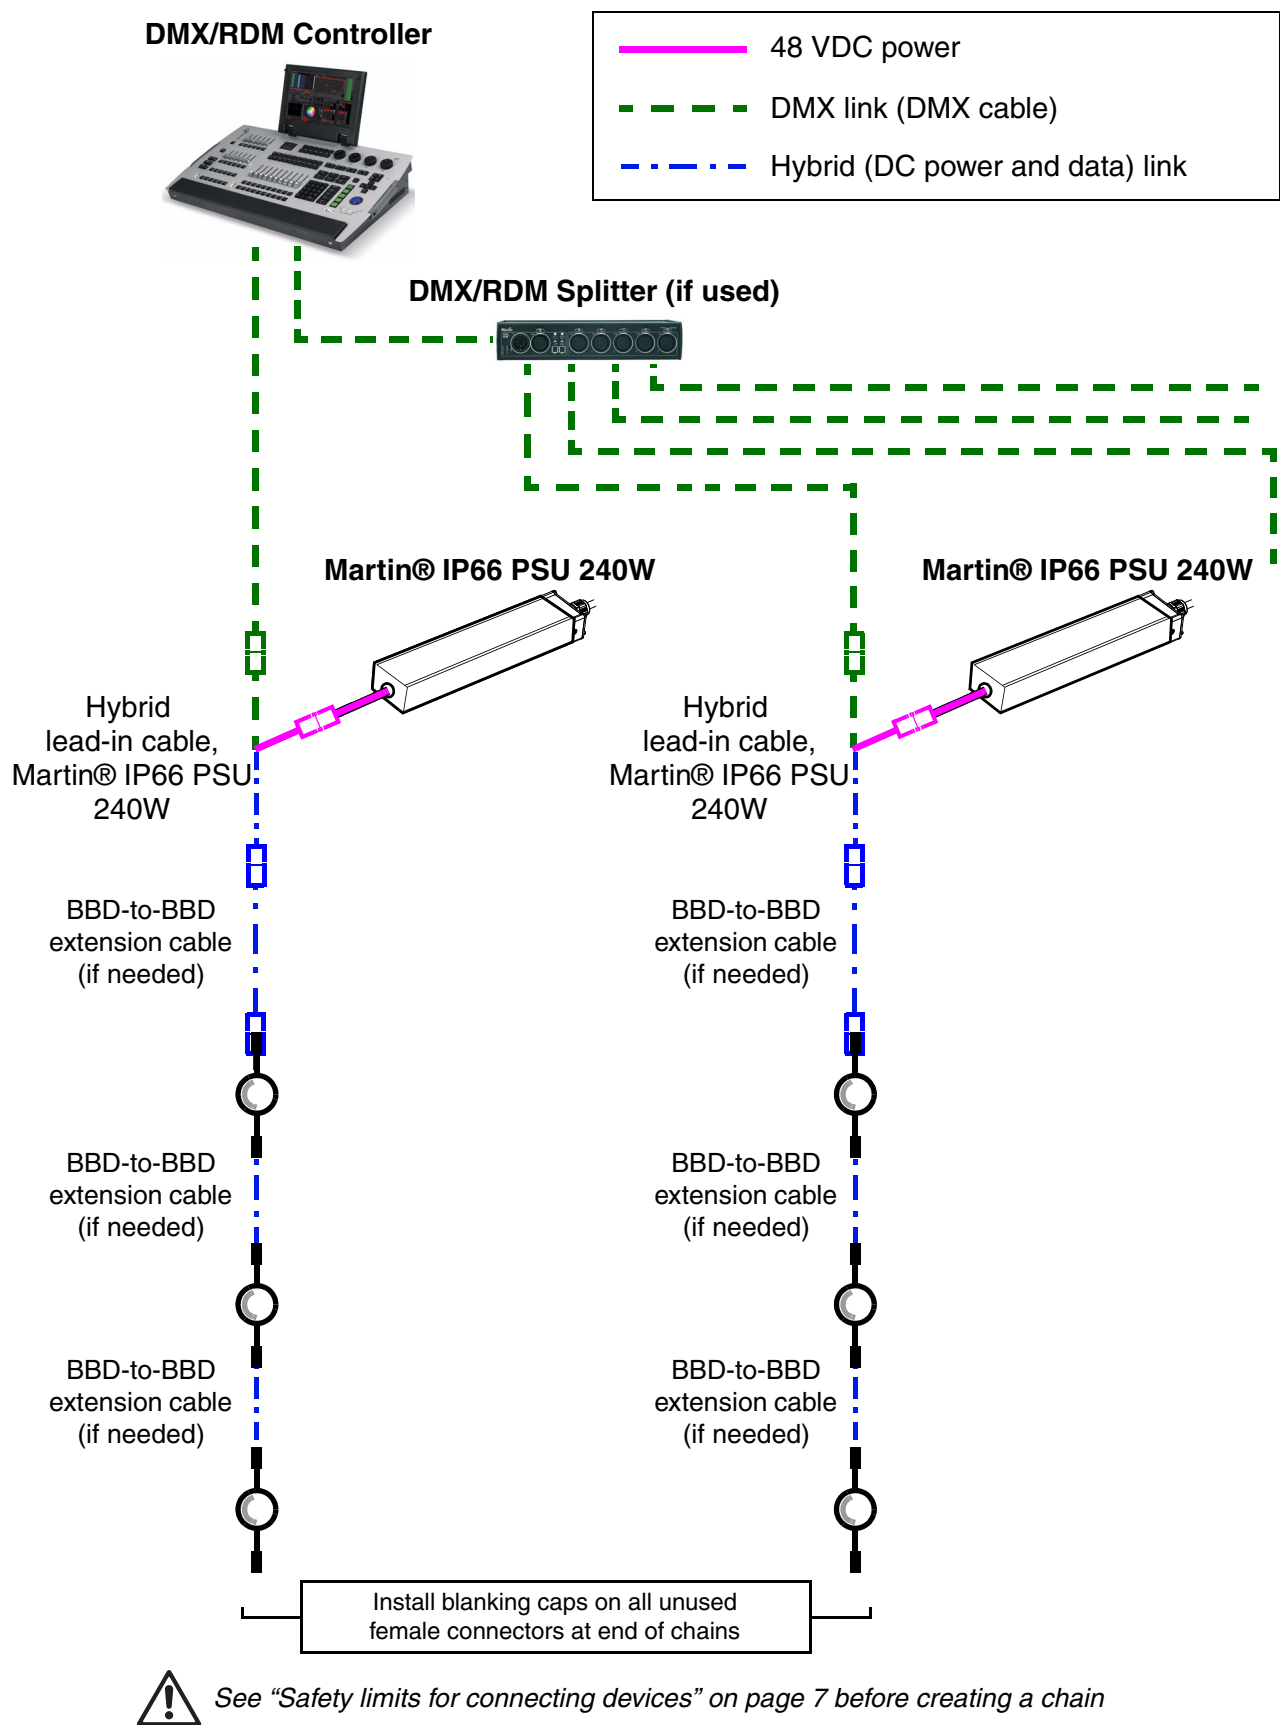

Figure 9: DMX-controlled system using the Martin® IP66 PSU 240W
1. See Figure 9 on page 19 for an overview of this type of installation